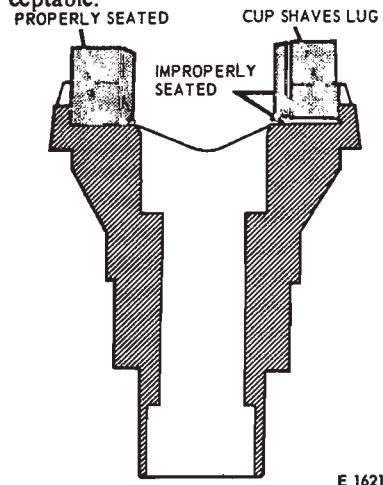

FIG. 5—Checking Companion Flange
3. Check the companion flange damage to the universal joint bearing locating lugs. If the universal joint bearing locating lugs on the companion flange are shaved (worn) or damaged, replace the companion flange (Fig. 5).